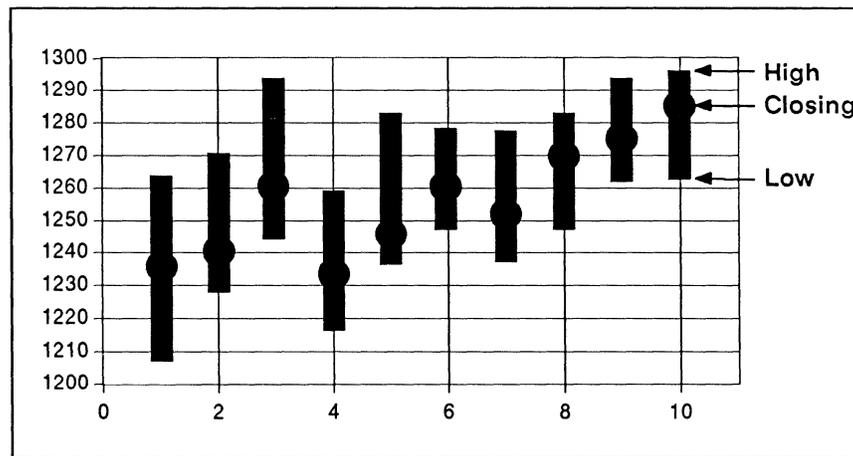

Figure 29-6. Sample Dow Jones chart
To illustrate the application of scale flags, we will show you how to create and size a Dow Jones chart (Figure 29-6). A Dow Jones (DJ) chart illustrates three data values for each day: the low, the closing, and the high. A solid bar represents the distance between the high and the low values, and a circle overlaid on the bar indicates the closing value. When creating a DJ chart, we group diagramming objects with the chart to illustrate the data. To modify the chart later, you must modify the data and size or move the corresponding diagramming objects.